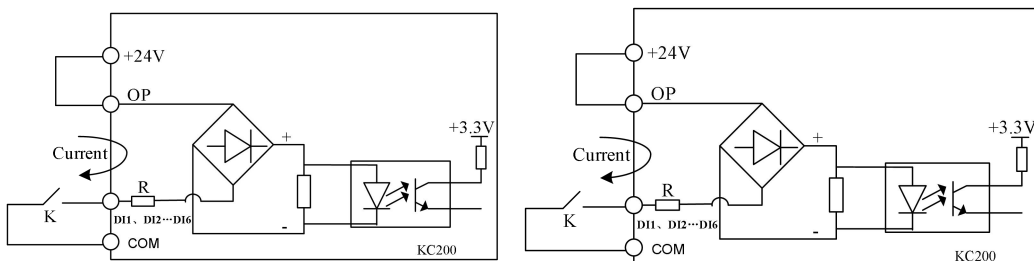

Figure 3-6 The connection method of using the internal 24V power supply
The KC200 multi-function input terminal uses a full-bridge rectifier circuit, as shown in Figure 3-6. OP is the common terminal of DI1~DI6. The current flowing through the PLC terminal can be a source current or a sink current. The external interface between DI1~DI6 is very flexible. The typical wiring method is as follows:
- 1) Use the 24V power supply inside the AC drive, and the wiring method is as shown in Figure 3-6.